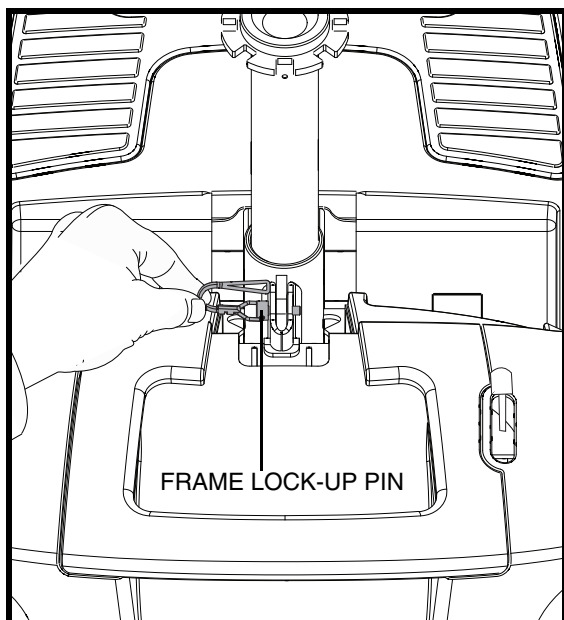

Figure 22. Frame Lock-Up Pin
2. Remove the frame lock-up pin. **See figure 22.**